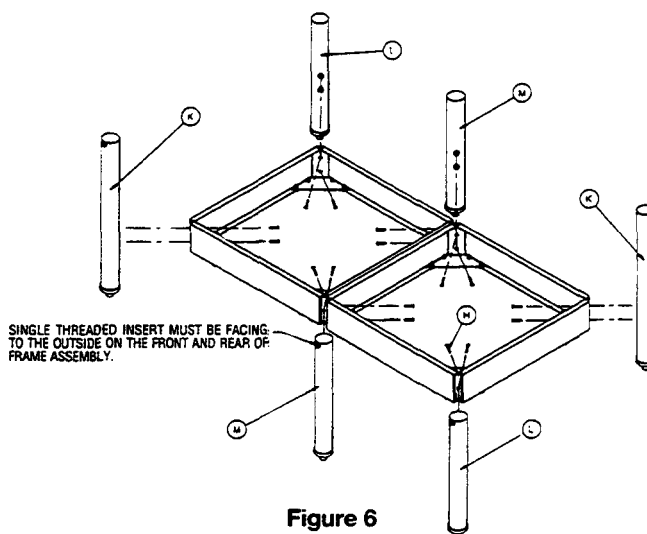

Figure 6
4. Attach left leg assembly item "K," as shown in Figure 6, right leg assembly item "L," and center leg assembly item "M" to frame using V, - 20 x $1\frac{1}{2}$ hex bolts item "H" from inside of frame. Repeat Step 4 for back side of stand.